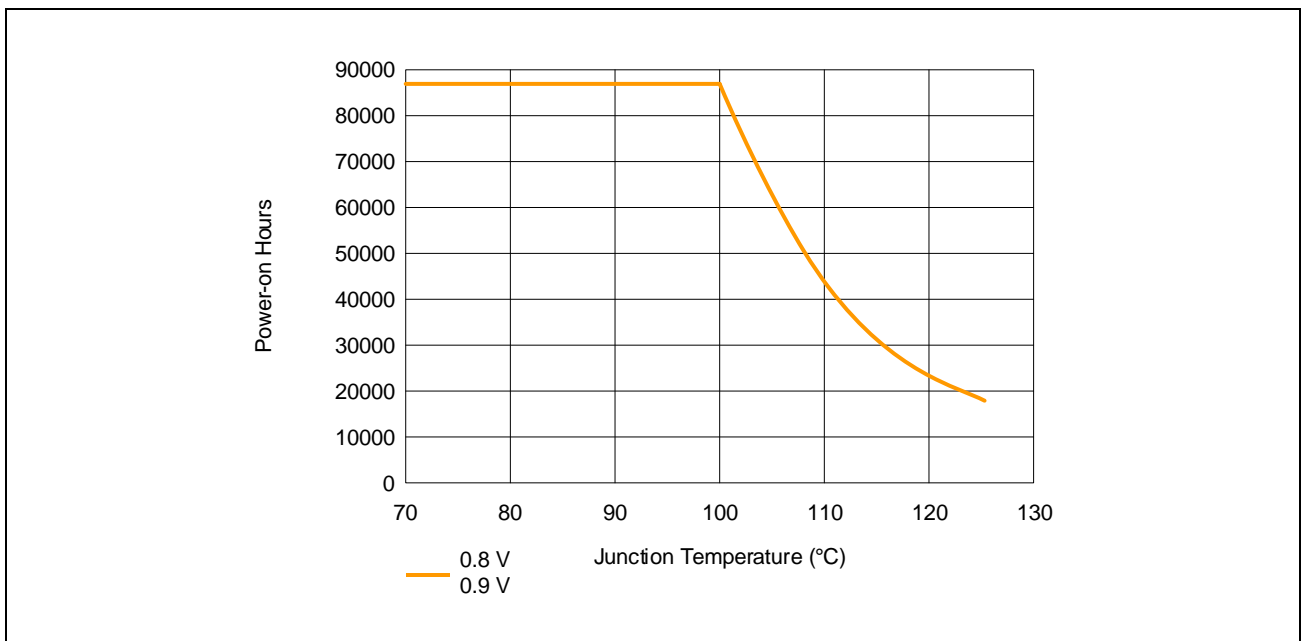

Figure 2.1 Device Lifetime Estimates
**Figure 2.1, Device Lifetime Estimates** establishes guidelines for estimating PoH as a function of junction temperature. PoH can be read directly from the curves below to determine the necessary trade-offs to junction temperature.